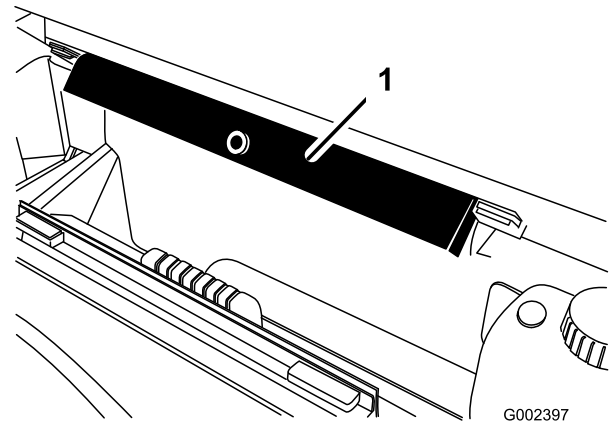

Figure 100
8. Remove the bed support from the storage brackets at back of the ROPS panel (Figure 100).